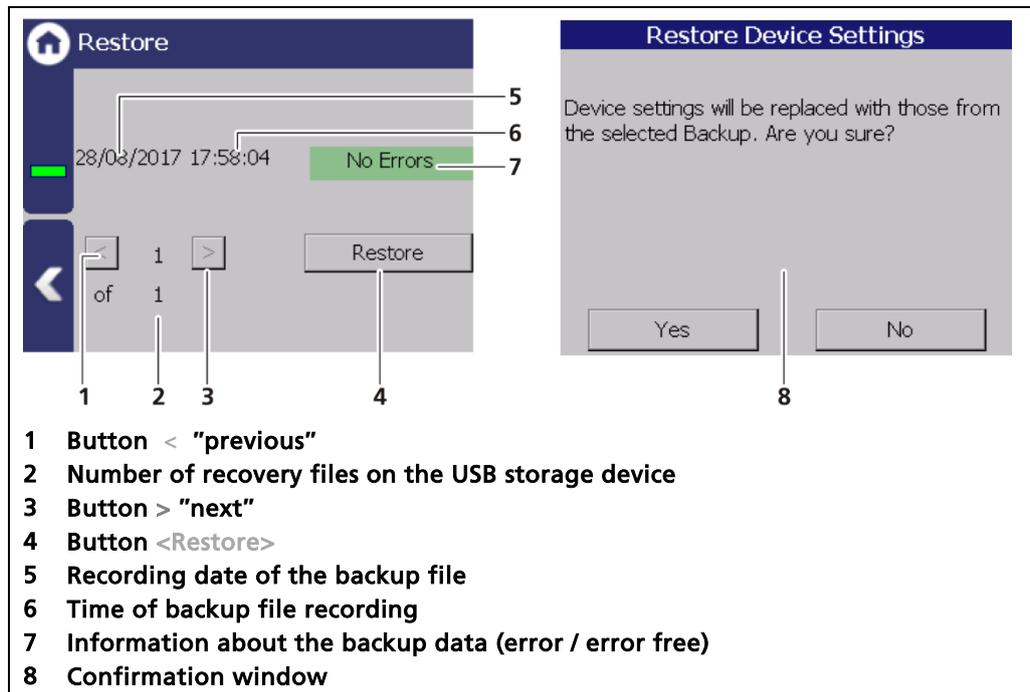

Fig. 110 Restore
2. Select the backup file with the buttons (Fig. 110, item 1,3).
3. The date and time of the backup is displayed (Fig. 110, item 5,6). Only error-free (Fig. 110, item 7) backup files can be loaded.
4. Click on the button "Restore" (Fig. 110, item 4).
5. A confirmation message (Fig. 110, item 8) appears.